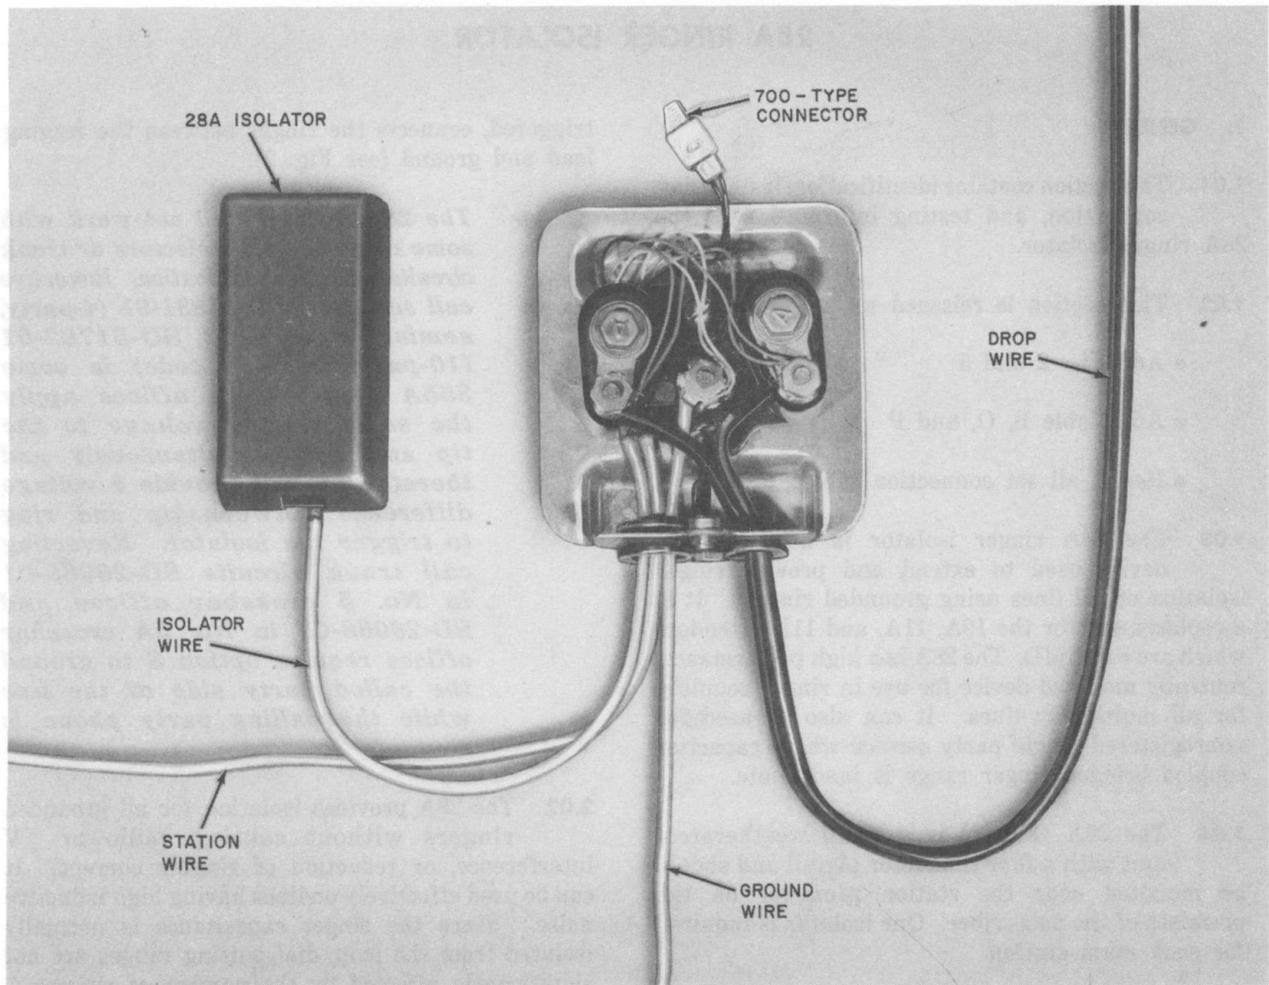

Fig. 1—28A Ringer Isolator, Typical Installation
1.04 The 28A (Fig. 1) is a small weatherproof unit with a four conductor pigtail and should be mounted near the station protector on the premises of the subscriber. One isolator is required for each main station.
3.01 Install the 28A near the station protector using the stainless steel mounting screws furnished with the isolator. The four conductor pigtail lead should come out of the bottom of the isolator and is used to connect to the protector and inside wire as shown by Fig. 1.